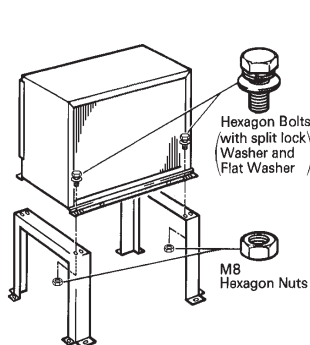

Fig. 10
1) Secure the legs to the condenser unit with eight M8×16 mm hexagon bolts and M8 nuts as shown in the illustration. See Fig. 10.